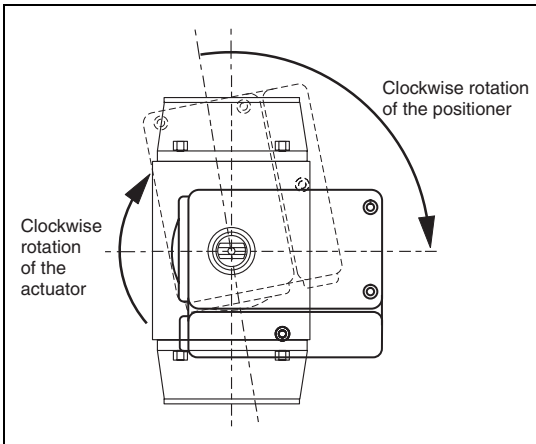

Fig. 15 Mounting TZID to an actuator turning clockwise, shifted by 90°
- Turn TZID **clockwise** by approx. **105°** (see Fig. 15).